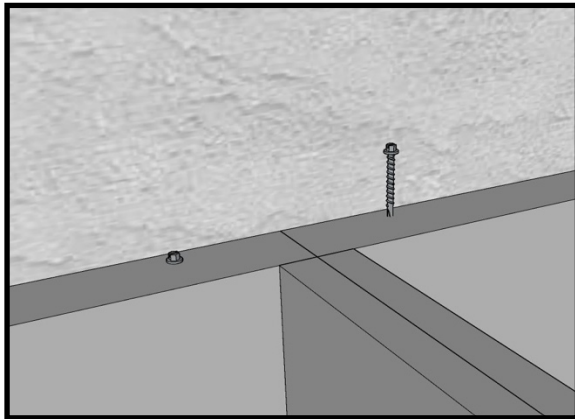

Fig 4
4. Align and hang first canopy by setting rear channel of canopy into two Lower Hanging Brackets (#9). Once canopy is aligned and sitting in brackets, attach canopy to bracket with #14x2" Tek screws (see Fig 4). Continue supporting canopy with lifting equipment until a minimum of two tie-backs are attached.